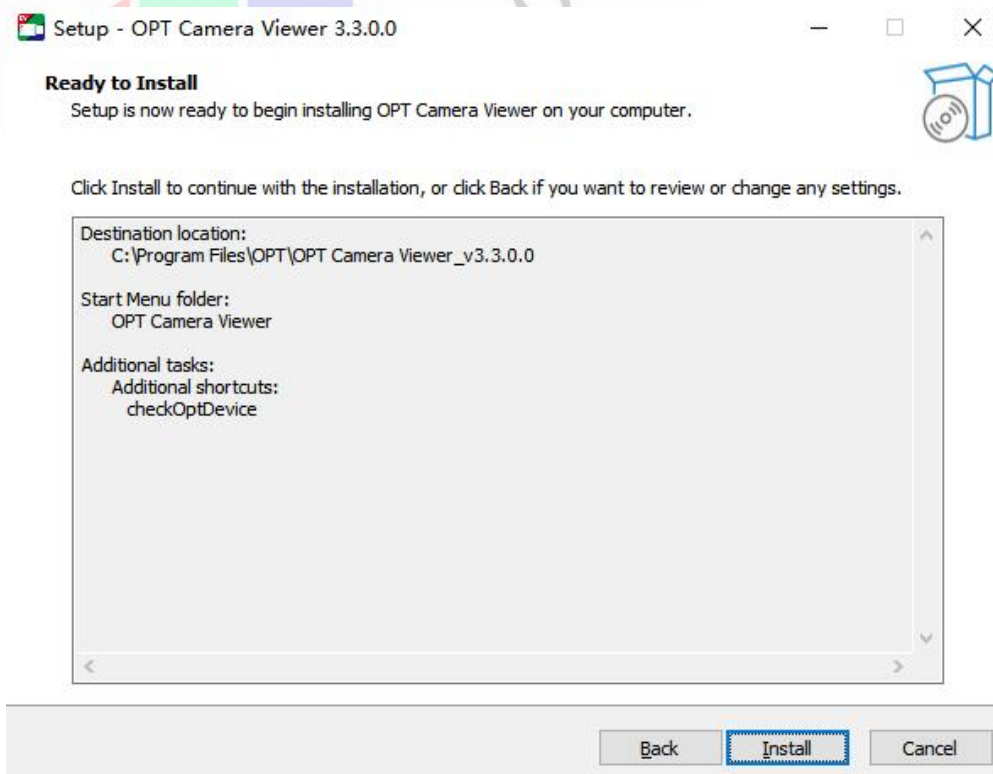

Figure 3-5 Prepare the installation window
6. Enter the preparation for installation window as shown in Figure 3-5, check the installation summary information and click the next button to continue the installation process.